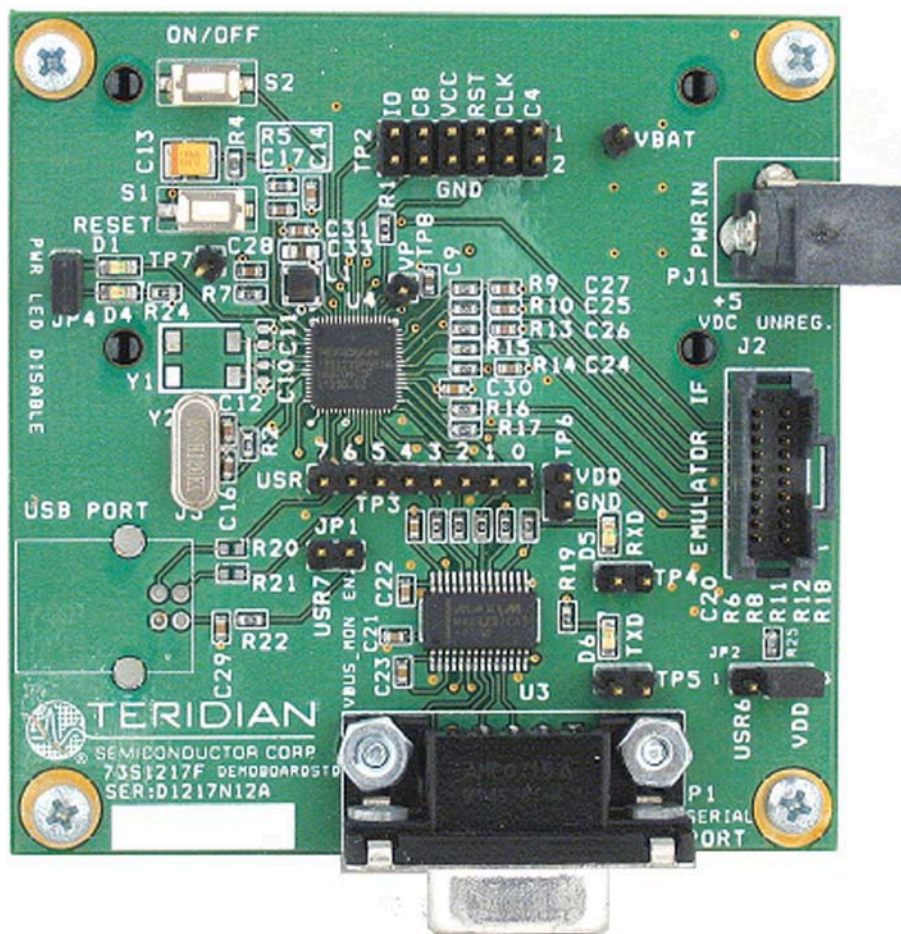

Figure 1: 73S1210F Evaluation Board Lite
- 73S1210F Evaluation Board Lite: 4-layer, square PCB as shown in Figure 1, containing the 73S1210F with the preloaded turnkey Pseudo-CCID (PCCID) program.
The 73S1210F Evaluation Board Lite (see Figure 1) includes the following features: